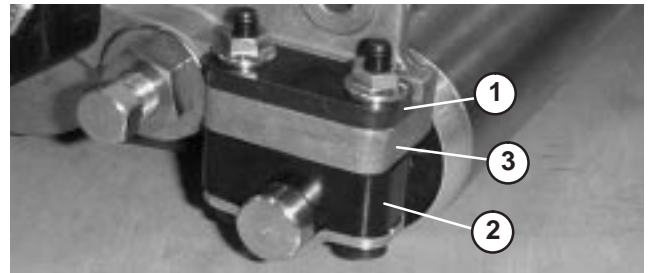

Figure 10
1. Adjust rear roller brackets (Fig. 10 & 11) to low or high position depending on desired height of cut range.
- Position the spacer above the sideplate mounting flange (factory setting) when height of cut settings range from 1/16 to 1/4" (Fig. 10).